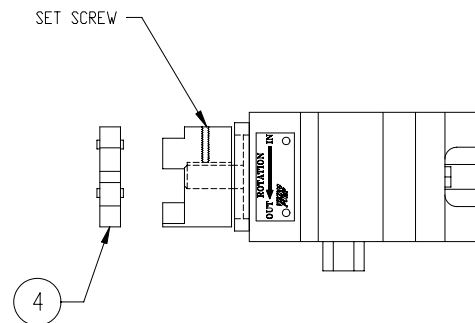

Figure 2
6. Add a thin coating of Loctite 242 to the set screw. Tighten the set screw in the coupling shown in Figure 2 against the key stock in the pump shaft.
7. Insert the spider onto the pump coupling as shown in Figure 2.